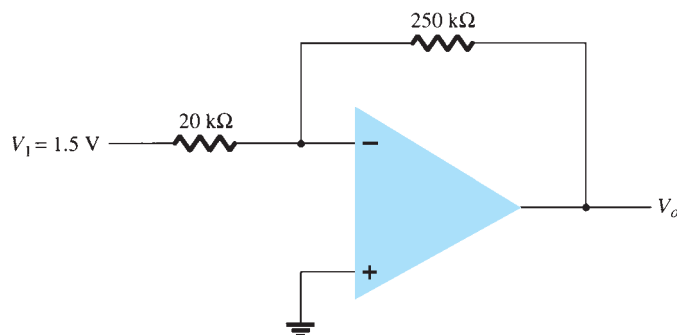

FIG. 10.62
1. What is the output voltage in the circuit of Fig. 10.62?
- *25. Use Schematic Capture or Multisim to draw a circuit to determine the output voltage in the circuit of Fig. 10.62.